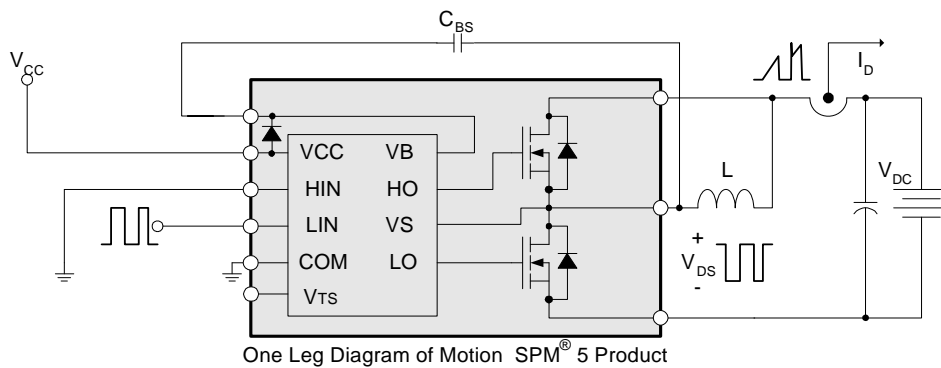

Figure 8. Switching and RBSOA (Single-pulse) Test Circuit (Low-side)
- t_{ON} and t_{OFF} include the propagation delay of the internal drive IC. Listed values are measured at the laboratory test condition, and they can be different according to the field applications due to the effect of different printed circuit boards and wirings. Please see Figure 6 for the switching time definition with the switching test circuit of Figure 8.
- The peak current and voltage of each MOSFET during the switching operation should be included in the Safe Operating Area (SOA). Please see Figure 8 for the RBSOA test circuit that is same as the switching test circuit.